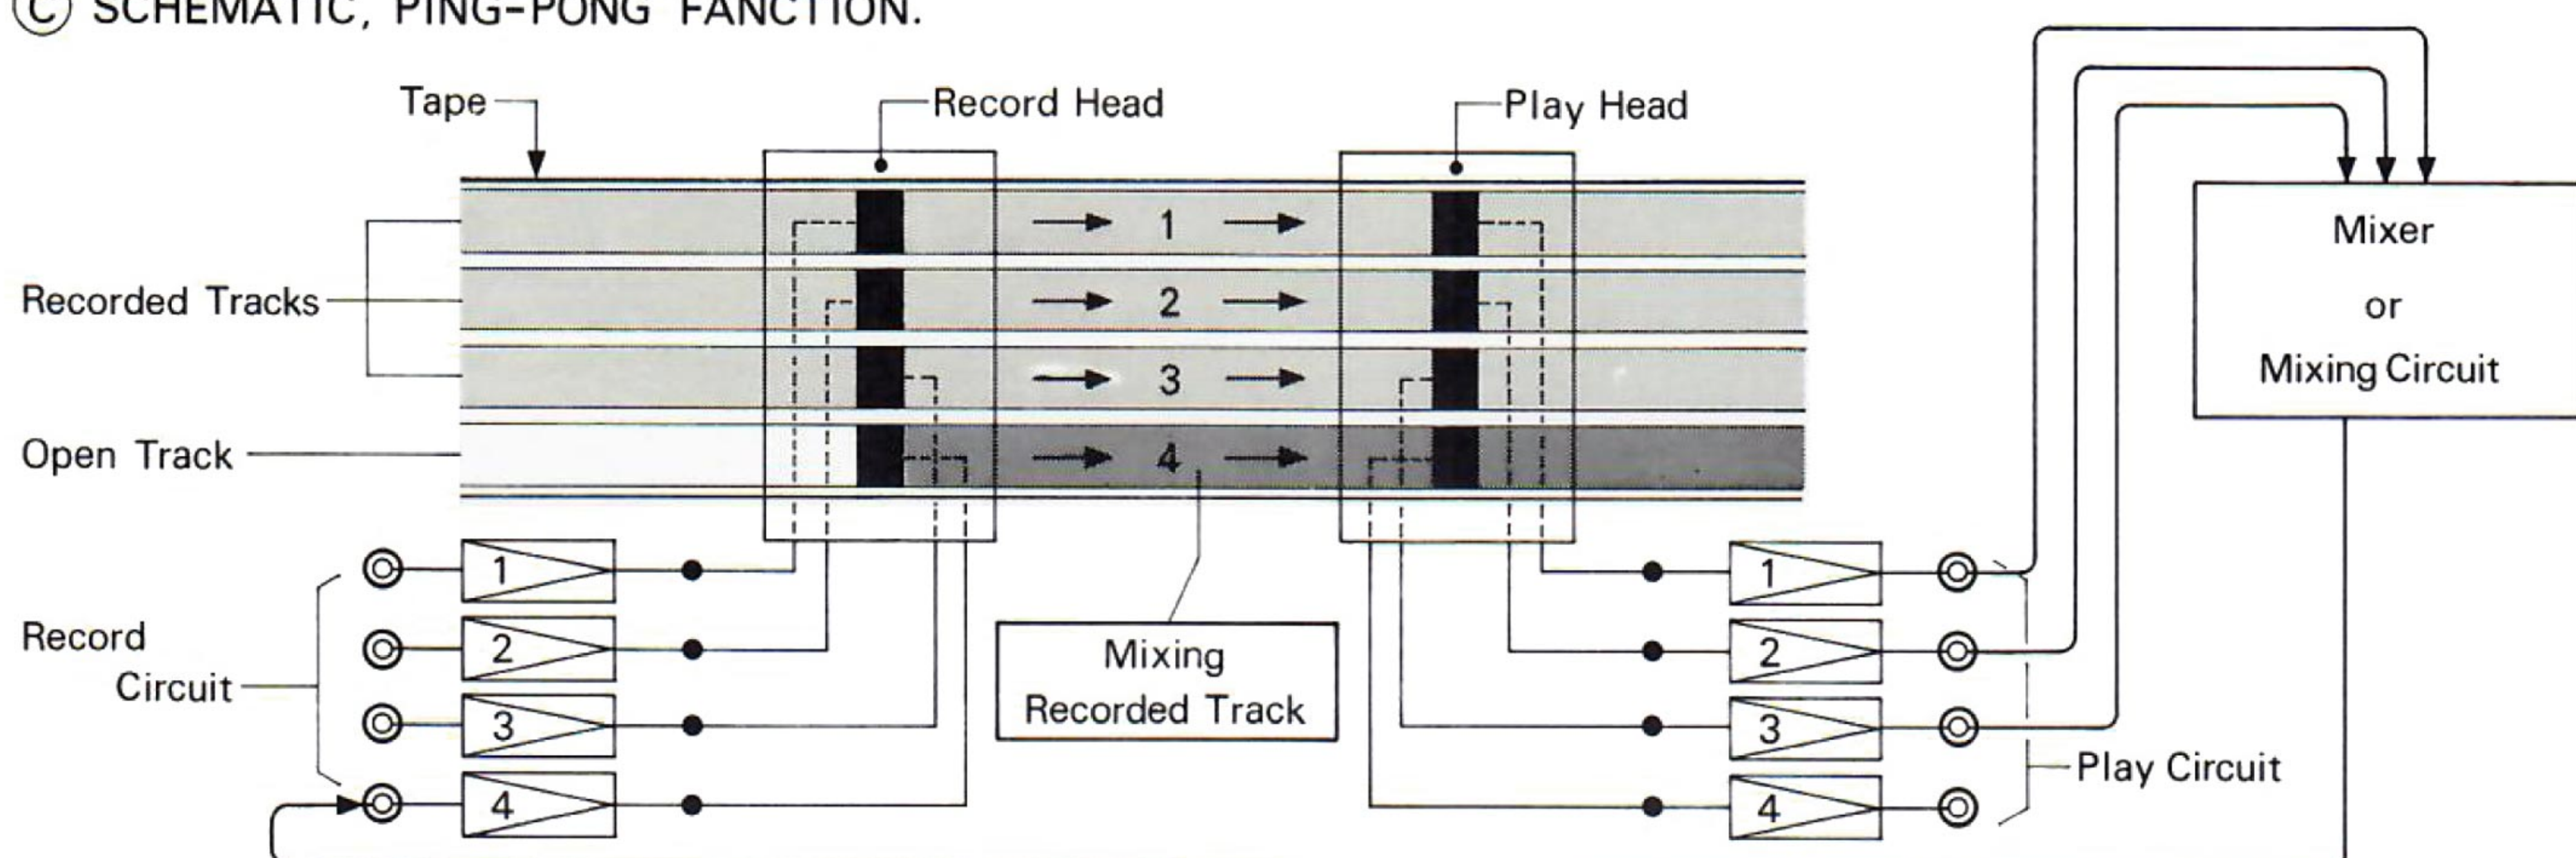

Fig. 8
6. Refer to our diagram, Fig. 8, for an example of ping-ponging three recorded tracks onto a fourth.